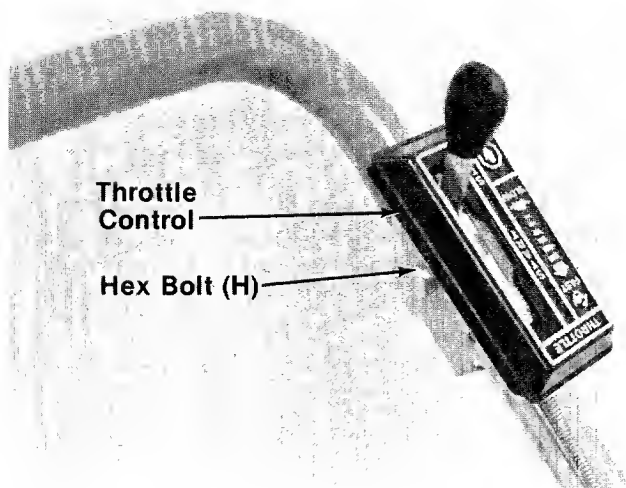

FIGURE 4.
5. Place the throttle control in position on left side of upper handle. Secure with hex bolt (H) and lock nut (I). See figure 4.